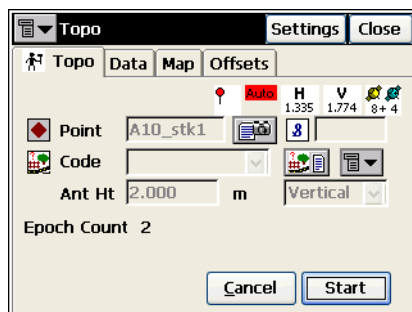

Figure 5-36. Topo – Start
- **Start:** starts the survey process. After pressing, the button changes its name on **Accept** and a new button **Cancel** appears along with the counter of the epochs collected (Figure 5-36).